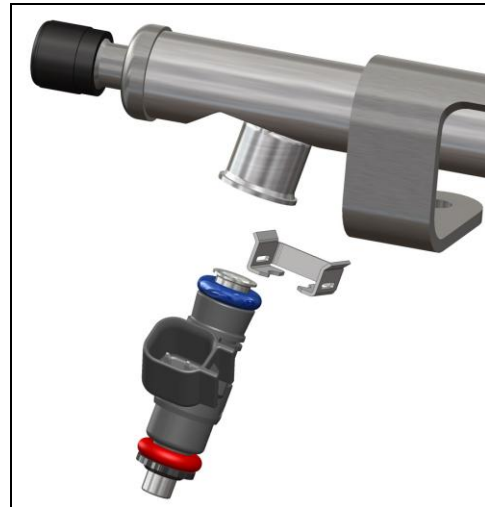

Figure 2
9. Remove injector retaining clips and then remove injectors. Pull straight down on the injectors while gently twisting them (Figure 2).